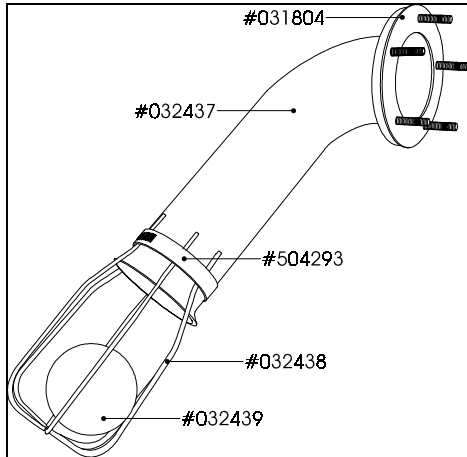

FIGURE 5 : BALL CHECK VALVE ASSEMBLY
12. Assemble the ball check valve as per figure 5.
12. Assemble the ball check valves as per figure 5.